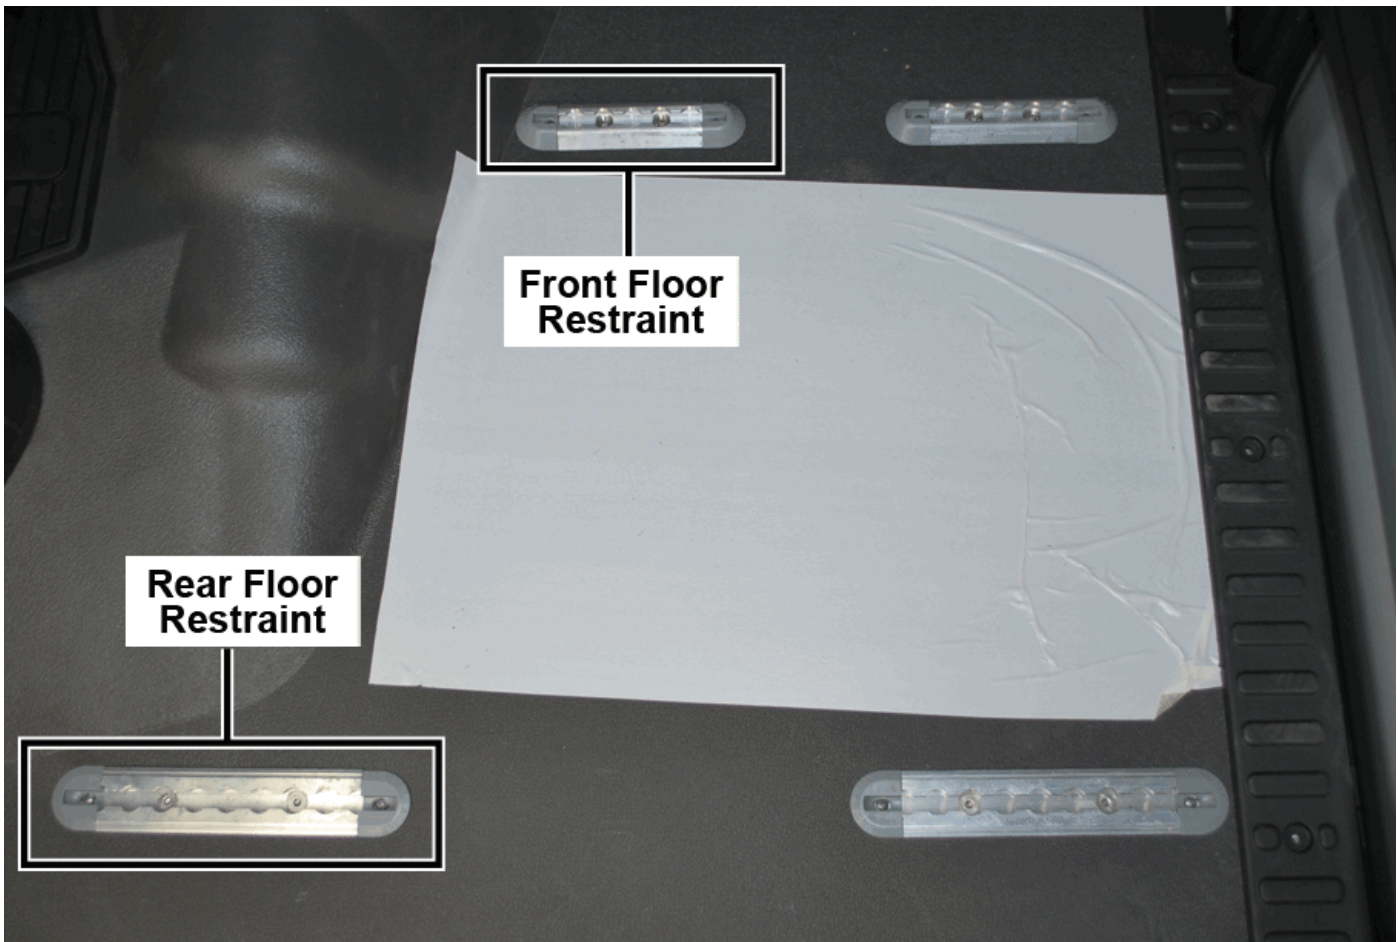

Figure 1: Floor Restraints
1. Remove the front and rear floor restraints and end caps located next to the transmission tunnel (See Figure 1).